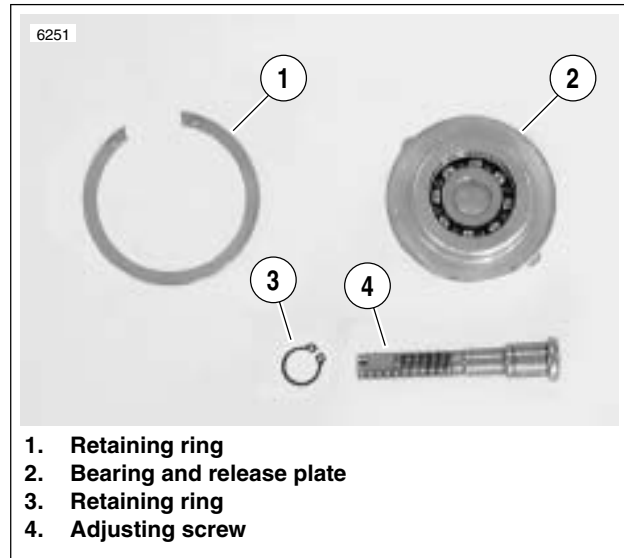

Figure 6-15. Adjusting Screw Assembly
5. See Figure 6-15. Remove adjusting screw assembly.